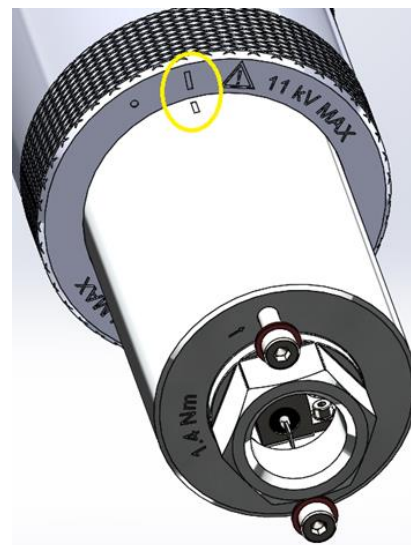

Figure 11-48: Sensor electronics piece secured in test tap adaptor piece (left) & alignment marks (right)
9. Align the uncovered sensor electronics piece with the test tap adaptor piece. Ensure that the sensor electronics' spring pins align with the grooves in the test tap adaptor. Push down and rotate clockwise until the alignment marks are aligned as shown in Figure 11-48.